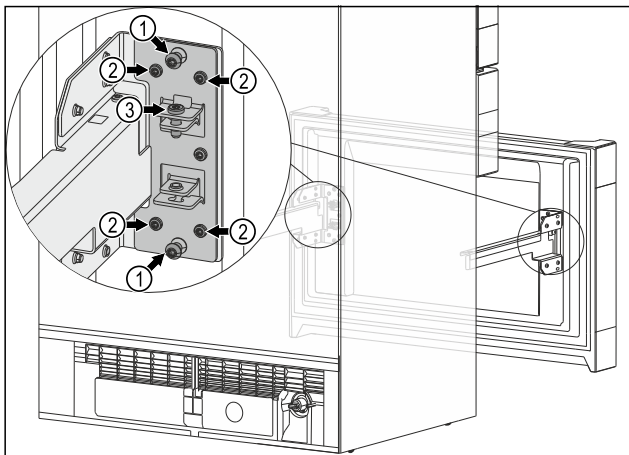

Fig. 12
- ▶ Remove both center screws Fig. 12 (1).
- ▶ Loosen all four screws Fig. 12 (2).
- ▶ The pull-out cart's end position is reached: Tighten all four screws Fig. 12 (2).
- ▶ You do not need the center screws Fig. 12 (1) anymore.